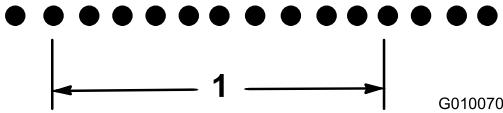

Figure 66
18.8 divided by 10 is 1.88, hole spacing is short by .12 inch from nominal (Figure 66).